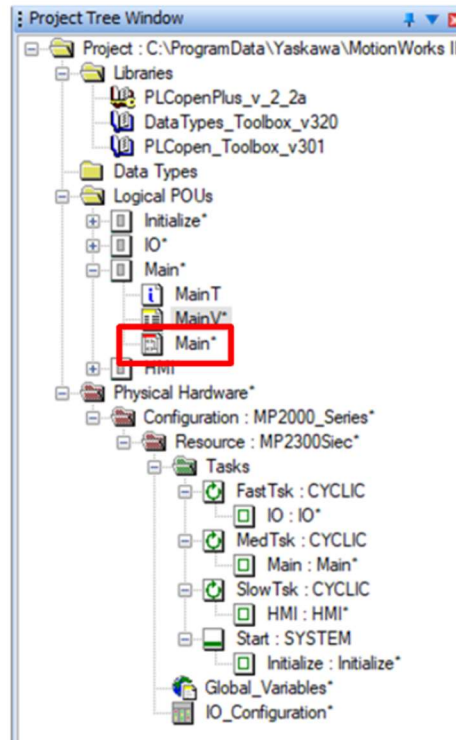

Figure 12: Navigation to Main Program Workspace
- On the left side of the screen in the Project Tree Window, navigate to Project > Logical POUs > Main > Main and double click it as highlighted in Figure 12 to get to the correct workspace.